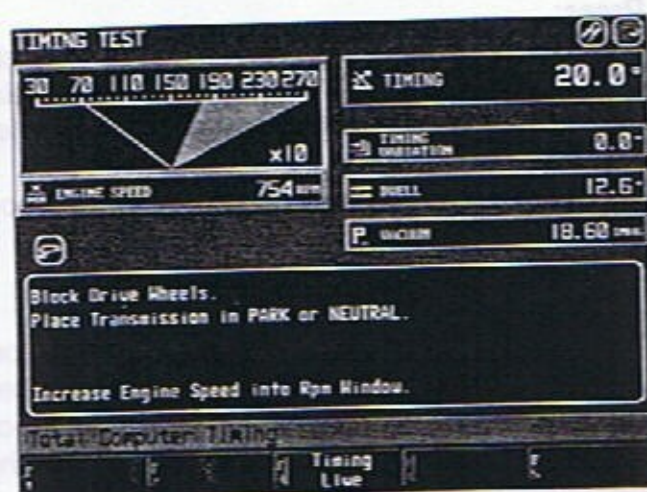

Figure 3-32
1. Press [F2]. The *Timing System Test* screen appears (see Figure 3-32). The analyzer will test the Total Advance Timing first.